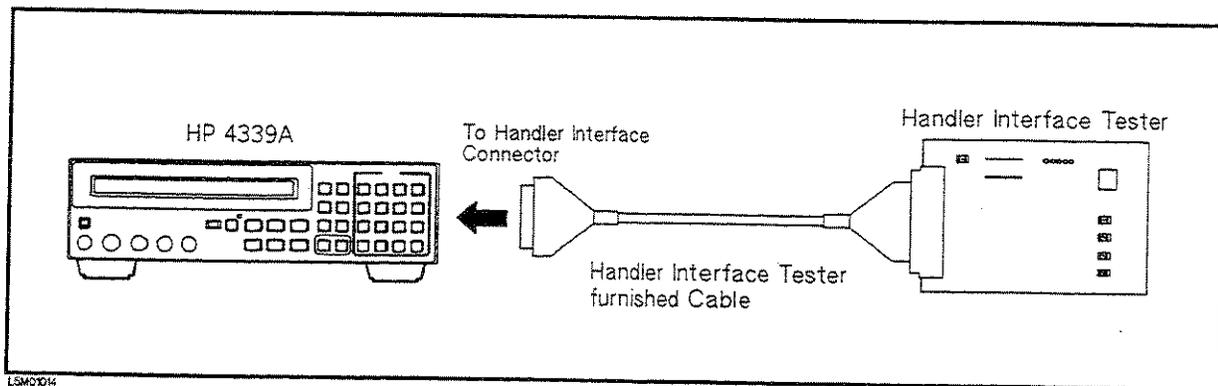

Figure 9-11. Handler Interface Functional Test Setup
3. Set up the equipment as shown in Figure 9-11